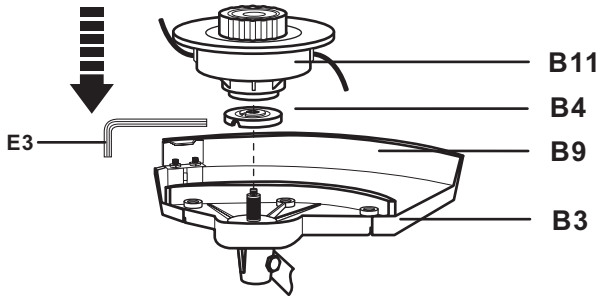

Fig. 5
5. Screw the trimmer head (B11) on the spindle (B2) anticlockwise, and tighten it securely. (See Fig. 5)